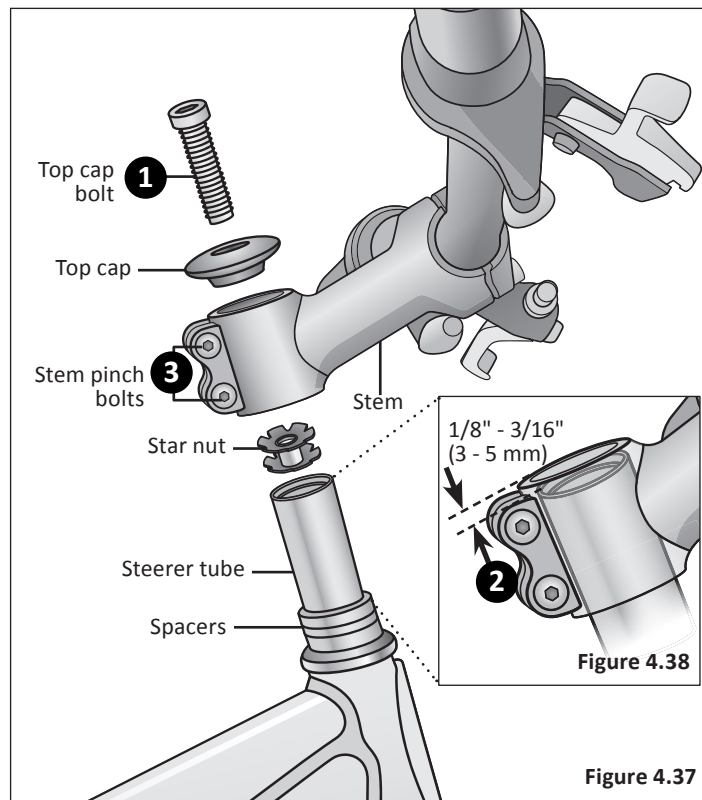

Figure 4.37
**Important! Do not** disassemble the headset or loosen any parts. Be sure the end of the fork is on the ground or being held with your free hand, because once you loosen the top cap the fork assembly may fall out of the frame. **Figure 4.37**